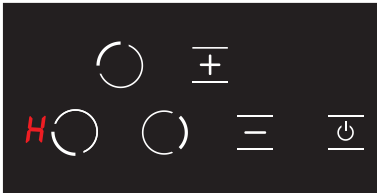

Figure 17
3. If any hob is still hot after 20 seconds, **H** symbol is displayed until the temperature of the relevant hob becomes lower than +60 °C. (see Fig. 17) No icon is displayed after the stove is turned off if the relevant hob is not hot.